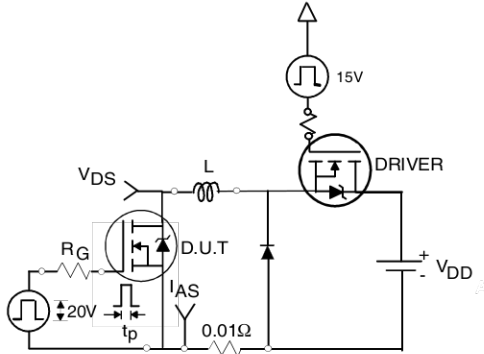

Fig 12a. Unclamped Inductive Test Circuit
- ③ $I_{SD} \leq 101A, di/dt \leq 210A/\mu s, V_{DD} \leq V_{(BR)DSS}, T_J \leq 175^\circ\text{C}$
- ④ Pulse width $\leq 400\mu s$; duty cycle $\leq 2\%$.
- ⑤ $C_{oss \text{ eff.}}$ is a fixed capacitance that gives the same charging time as C_{oss} while V_{DS} is rising from 0 to 80% V_{DSS} .
- ⑥ Calculated continuous current based on maximum allowable junction temperature. Package limitation current is 75A.
- ⑦ Limited by T_{Jmax} , see Fig.12a, 12b, 15, 16 for typical repetitive avalanche performance.
3. Equation below based on circuit and waveforms shown in Figures 12a, 12b.